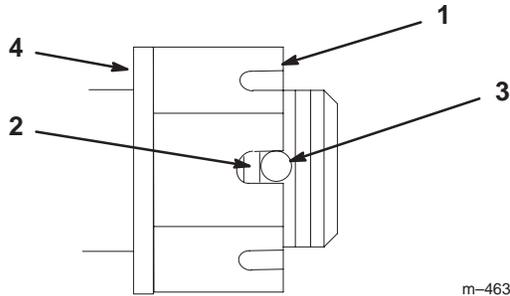

Figure 47
3. Torque slotted nut to 125 ft-lbs (169.5 N•m) (Fig. 47).
4. Check the distance from bottom of slot in nut to inside edge of hole. Two threads or less should be showing (Fig. 47).
5. If more than two threads are showing remove nut and install washer between hub and nut (Fig. 47).
6. Torque the slotted nut to 125 ft–lbs (169.5 N•m) (Fig. 47).
7. Tighten nut until the next set of slots line up with the hole in the shaft (Fig. 47).